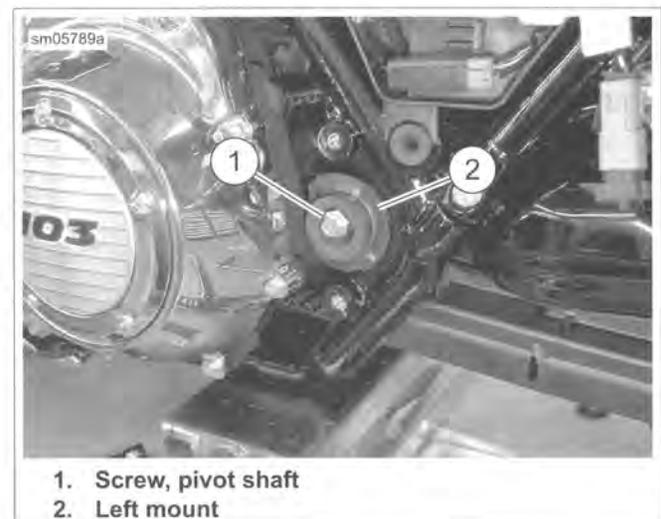

Figure 2-79. Left Side Mount and Pivot Shaft Assembly
10. See Figure 2-79. Pull pivot shaft assembly with screw, outer spacer, rubber mount and middle spacer out of transmission mount and left side fork.
5. See Figure 2-79. Slide pivot shaft from left side of motorcycle through left side fork and transmission mount. Guide end of pivot shaft through hole in right rubber mount.